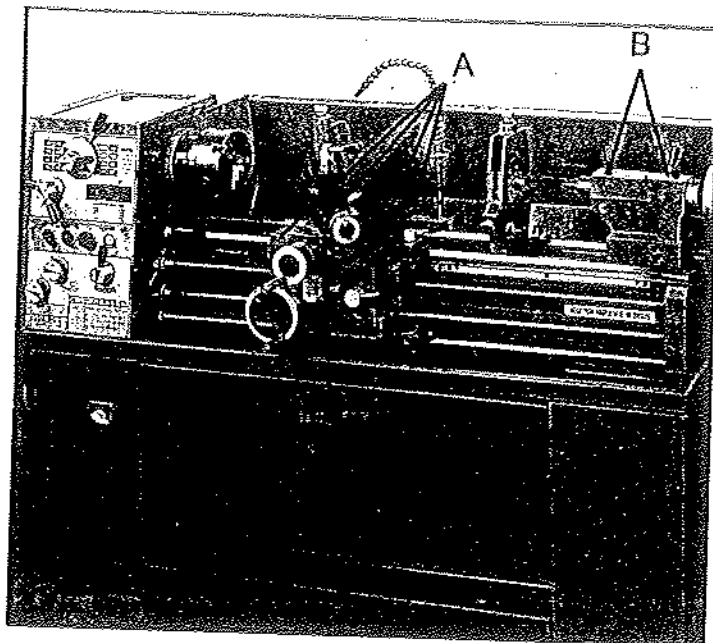

Fig. 6
8. **Carriage** - lubricate four oil ports (A, Fig. 6) with 20W machine oil once daily.
9. **Tailstock** - lubricate two oil ports (B, Fig. 6) with 20W machine oil once daily.